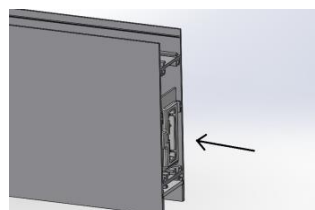

Fig.3
- 4) Slide the gear tray back into the luminaire so the connector is even with the Edge of the luminaire (Fig. 3)